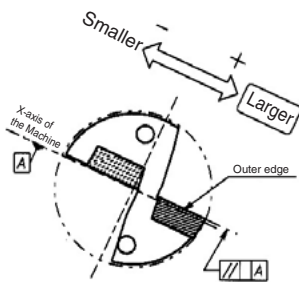
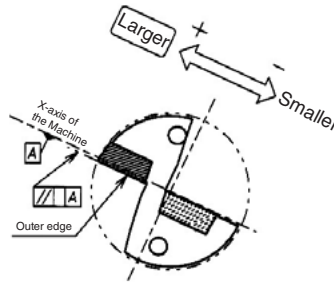

Fig.2 Outer insert Facing Up
Fig.3 Outer insert Facing Down
The Center Height is appropriate if a core approximately 0.5mm diameter remains at the center of the end face. (Fig.3)
- (2) In case of making the hole diameter larger, slide the tool along the X-axis toward the outer insert side. (Fig.2, Fig.3)